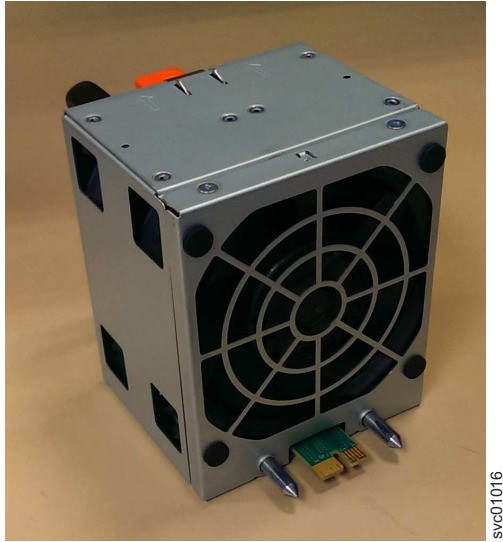

Figure 79. Fan module orientation
1. Hold the fan module with the release tab on top and the connector pin on the bottom, as shown in Figure 79 on page 94.